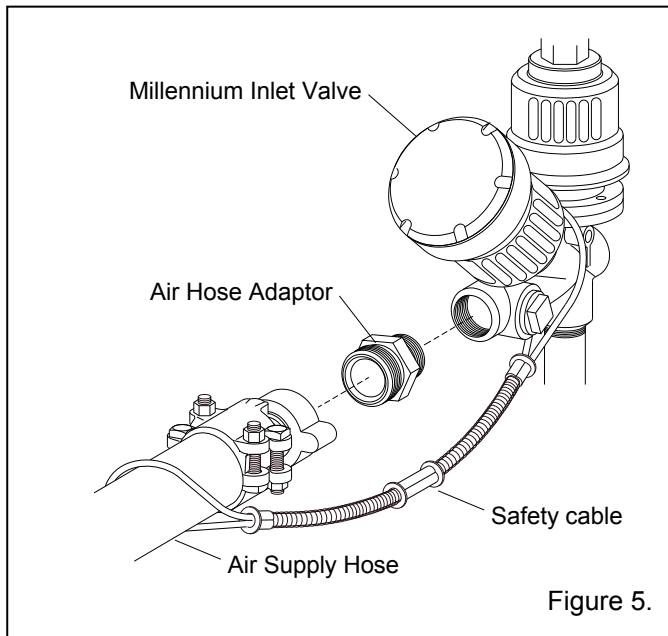

Figure 5.
2.4.1 Apply thread sealant to the male pipe threads of an air fitting that is compatible with the air supply hose fitting, as noted in Section 2.4.2, and install it onto the 1-1/2 NPT air filter located at the blast machine inlet, or the Millennium inlet valve, as shown in Figure 5. **Note that the style of connection shown in Figure 5 is for reference only.**